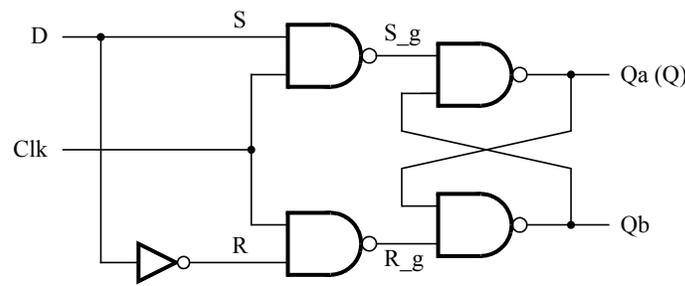
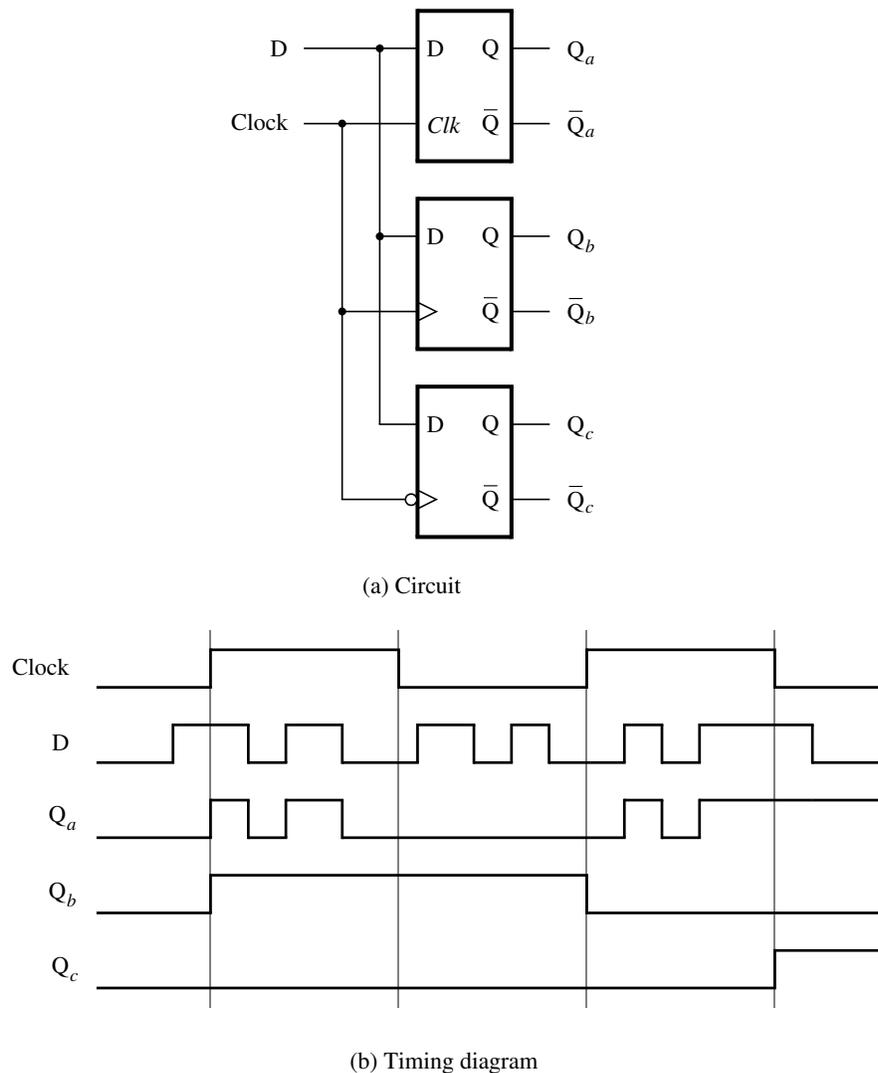

Figure 4. Circuit for a gated D latch.
Figure 6. Circuit and waveforms for Part IV.
Figure 4 shows the circuit for a gated D latch.
Figure 6 shows a circuit with three different storage elements: a gated D latch, a positive-edge triggered D flip-flop, and a negative-edge triggered D flip-flop.
Implement and simulate the circuit in Figure 6 by using the Quartus II software as follows:
Verilog code that specifies the gated D latch in Figure 4. This latch can be implemented in one 4-input lookup table. Use a similar style of code to specify the flip-flops in Figure 6.
5. Create a Vector Waveform File (.vwf) which specifies the inputs and outputs of the circuit. Draw the inputs *D* and *Clock* as indicated in Figure 6. Use functional simulation to obtain the three output signals. Observe the different behavior of the three storage elements.